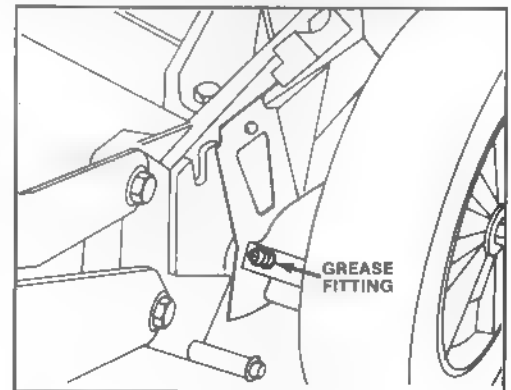

Figure 25
2. Move rear wheel height-of-cut levers to "C" setting. Wipe grease fittings with clean rag (Fig. 25). Install grease gun onto fitting and gently apply 2 or 3 pumps of #2 Multi-Purpose Lithium Base Grease.